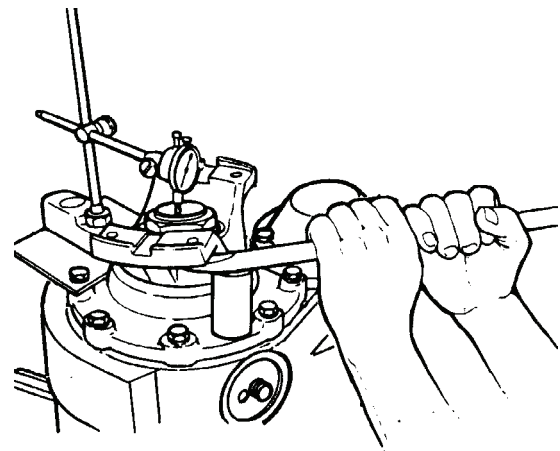

Figure 100.
- (c) Use a pry bar and a support to push the yoke away from the carrier. Read the dial indicator. The reading must be 0.002–0.008 inch (0.050–0.200 mm). Figure 100.